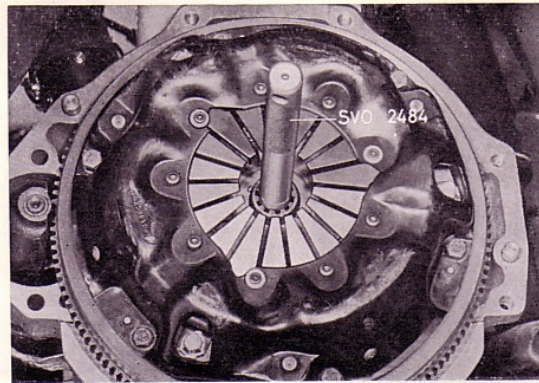

Fig. 31. Fitting the clutch
1. Set up the clutch plate (the longest side of the hub facing backwards) together with the clutch and insert the centering mandrel SVO 2484 so that the guide on this enters the pilot bearing in the flywheel, see Fig. 31.